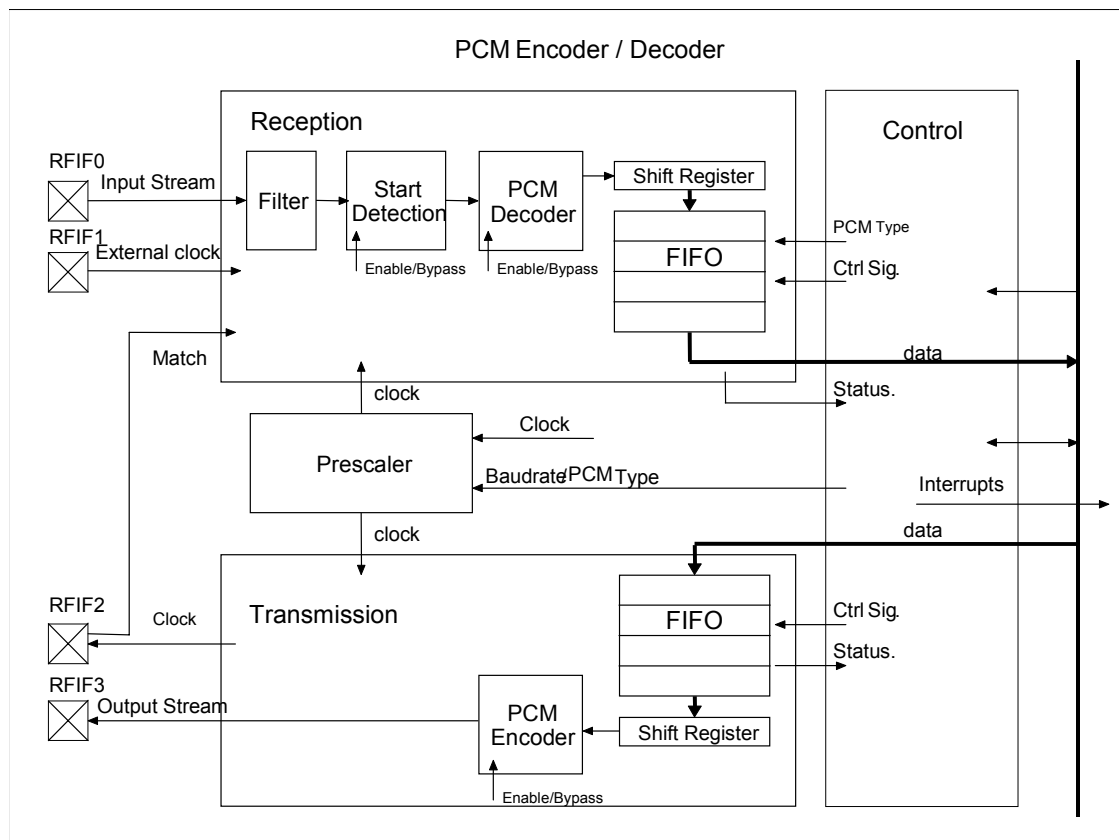

Figure 14-1 : PCM Encoder / Decoder Structure
- the “Start Detection” block. This block detects a programmable start sequence and therefor synchronizes at the message start. The interface ignores incoming messages until the start sequence is detected. This block can be bypassed or an external message synchronization signal can be used (match in Figure 14-1).